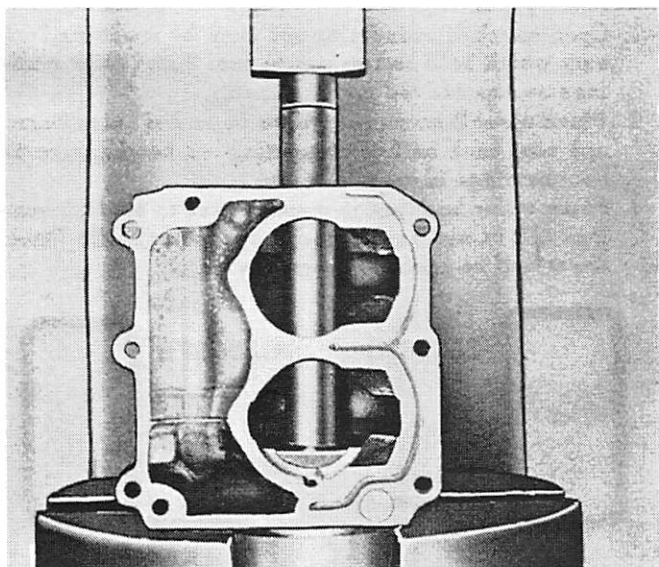

Figure 8. Installing Bearing in Crankcase Bottom
2. Insert bearing in crankcase bottom seat and press against numbered side of bearing with arbor press from inside of crankcase until seated on crankcase shoulder. (Figure 8) Bearing should be about $\frac{3}{32}$ " below face of crankcase.